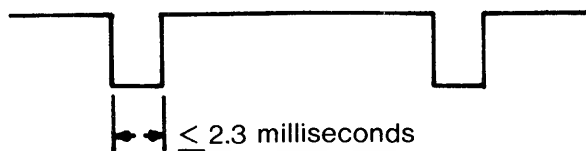

Figure 4-7. Negative Going Pulse Width
4. Ensure that the negative going pulse width is between 1.0 and 2.3 milliseconds (see figure 4-7).